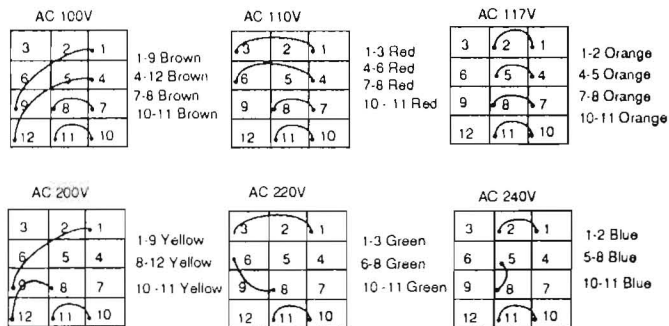

Figure 2-11 AC Line Voltage Connector
2. Referring to the Figure 2-11, find the fuse location.